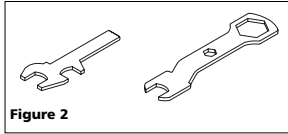

Figure 2
- Use wrenches provided to loosen jam nut on jaw housing (See Figure 2).